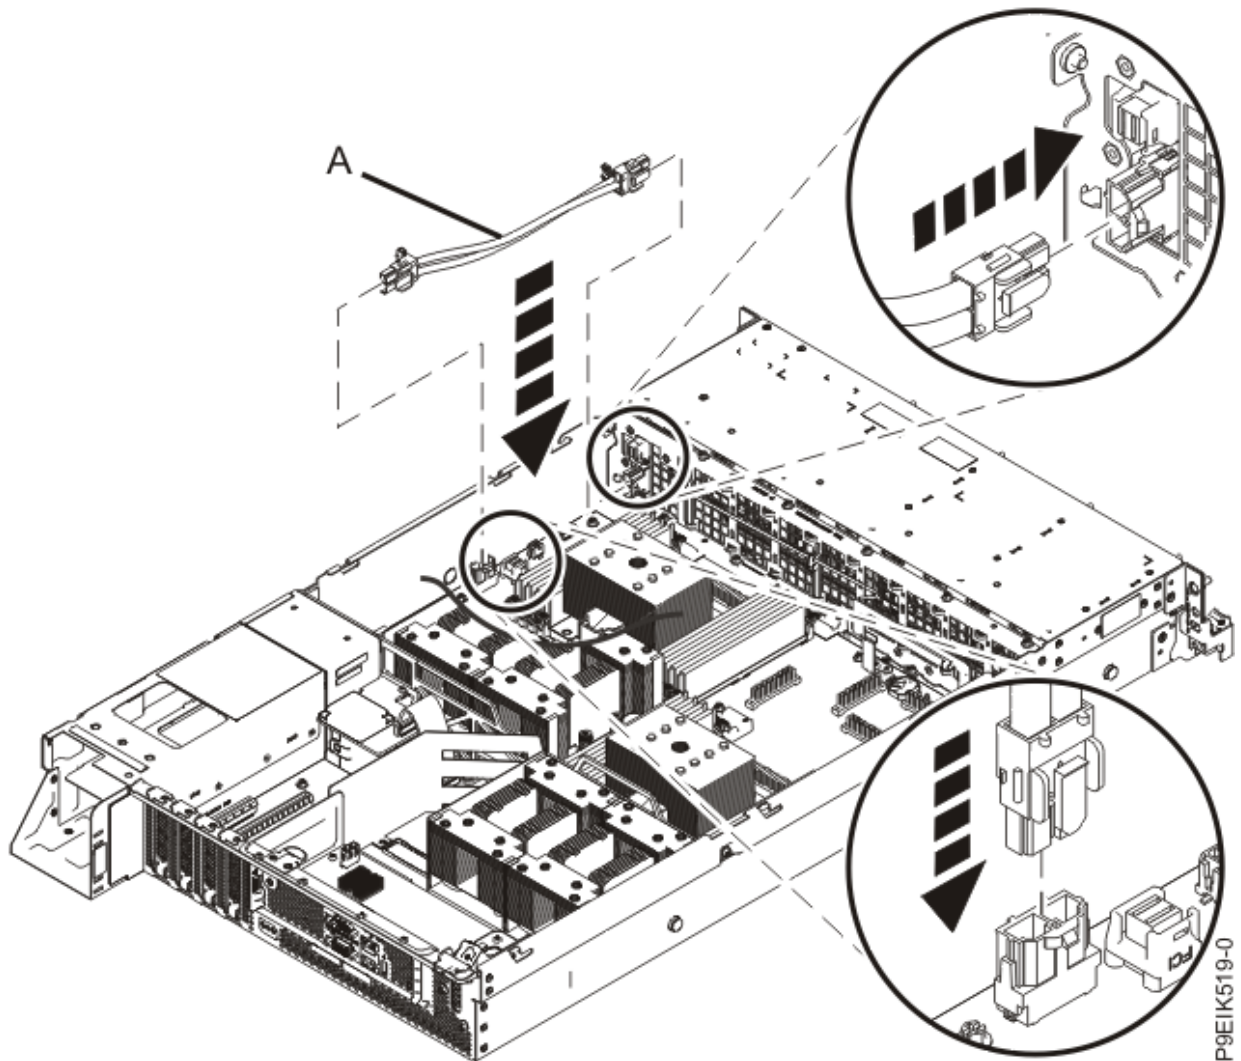

Figure 83. Installing the fan power cable
2. Route the fan power cable (**A**) connector end through the opening and connect it to the power riser as shown in Figure 83 on page 91.
3. Connect the other end of the fan power cable into the disk drive and fan card as shown in Figure 83 on page 91.